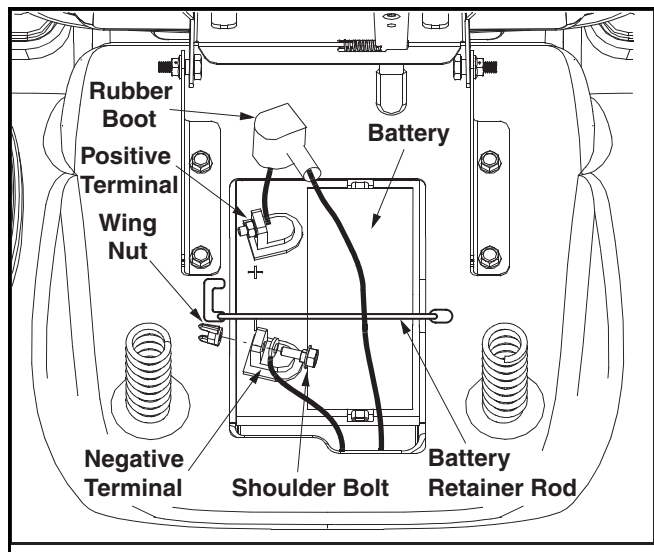

Figure 1
- Make certain the battery retainer rod is in position over the battery, securing it in place. See Figure 1.